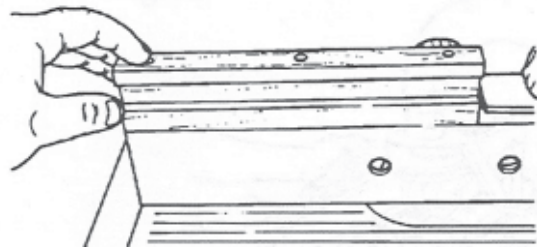

Figure D-65
3. Use the electric drill and a 5/32" bit to drill three holes through the width of each workpiece, as in Figure D-65. Countersink each hole deep enough for the head of the wood screws you will be using. Make sure you don't drill into the groove.
5. Place the feather board holder on top of each fence and line it up with the end of the fence board. See Figure D-65.